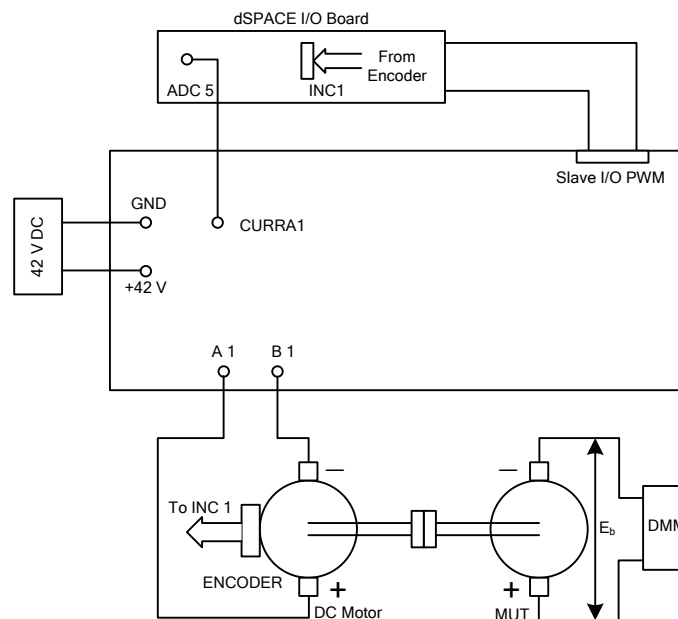

Figure 3.2: Connections for measurement of k_E
3.2.3 Connections on the Board as per Fig. 3.2